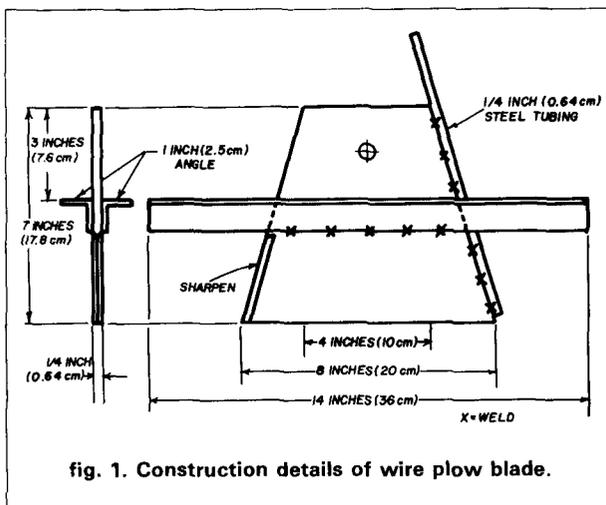

fig. 1. Construction details of wire plow blade.
The blade, figs. 1 and 2, was cut from 1/4-inch (6.4 mm) sheet steel by a local blacksmith for \$10. I drilled the holes for fastening it to the frame and sharpened the leading edge on a bench grinder. For the wire guide, I bought a length of 1/4-inch (6.4 mm) steel brake line from an auto supply store. A friend with a welding outfit tack-welded it to the trailing edge of the blade (fig. 2).
**Side Lobes.** It wasn't that many years ago that side lobes on common Yagi type antennas were only 10 dB down from the main lobe. A typical "E" plane (azimuth) pattern on a widely used 144, 432, and 1296 MHz Yagi antenna is shown in fig. 1.8,9,10 Unfortunately, the presence of side lobes on an antenna pattern is almost a fact of life. The higher the gain of an antenna, the more likely you are to have a greater number of lobes. *What is really important is how far down these lobes are with respect to the main beam, because they represent additional signal and noise pickup as well as lower gain.*
fig. 1. "E" plane plot of W2NLY/W6QKI 13-element 144 MHz Yagi. (See text and references 8, 9, and 10.) Note that beamwidth in "E" plane is approximately 29.5 degrees, and that the first side lobes are down only -10 dB. "H" plane beamwidth is the same (plotted on ARRL antenna radiation pattern paper.)